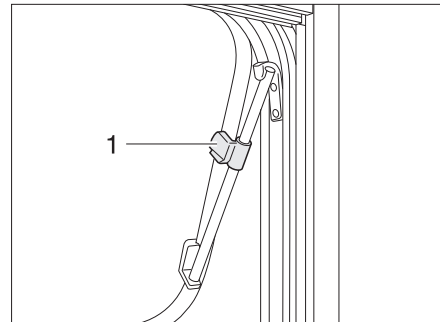

Fig. 36 Hinged window with rotary hinges, open
- Open the hinged window until the required position has been reached and secure in position using the knurled knob (Fig. 36,1).
- Turn the knurled knob (Fig. 36,1) until the latch is released.